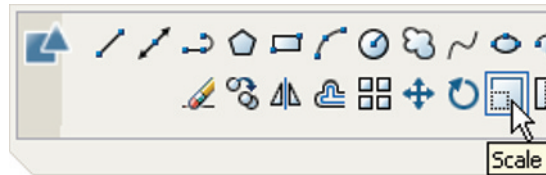

Fig. 5.28 The **Scale** tool icon from the **2D Draw** control panel
- Call **Scale** – *left-click* its tool icon in the **2D Draw** control panel (Fig. 5.28), or *pick* its tool icon in the **Modify** toolbar, or *pick* **Scale** from the **Modify** drop-down-menu, or *enter* **sc** or **scale** at the command line, which then shows: